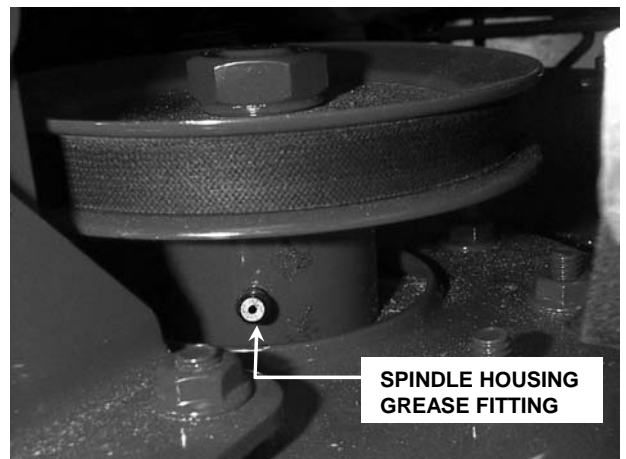

FIGURE 3.12
5. Deck spindle housings, 1-3 shots. See Figure 3.12.